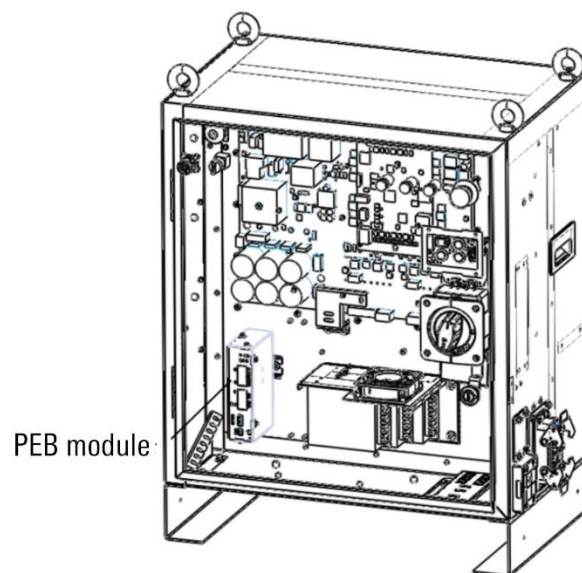

Figure 15-7 Install the PEB module on the rail
Step2. Install the PEB module on the guide rail through its own mounting buckle, refer to Figure 15-7.